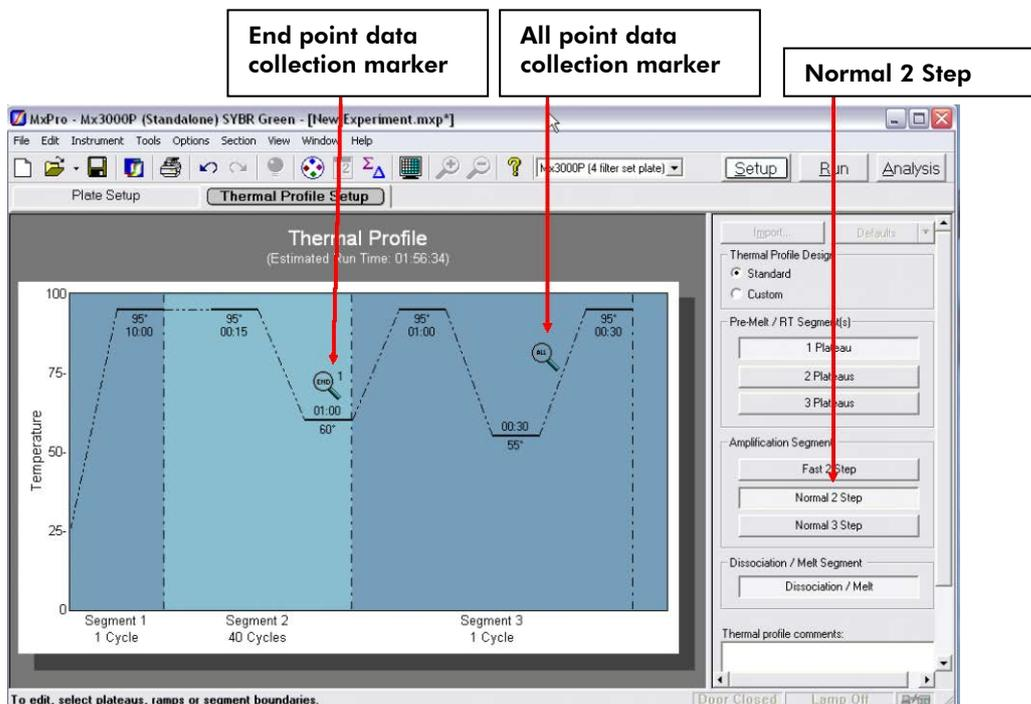

Figure 2. Thermal profile setup.
6. Click Next to go to the Thermal Profile Setup tab (See Figure 2). In the Application Segment panel to the right, click Normal 2 Step. To change the default setting for the thermal profile, click directly on the number that needs to be changed. Adjust the parameters to reflect the following: